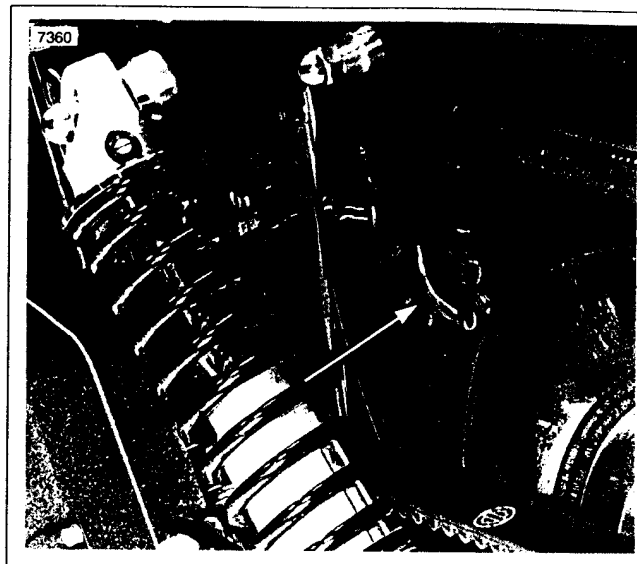

Figure 8-70. Service Loop-Rear
6. See Figure 8-70. Unfold the harness service loop from the frame tube.